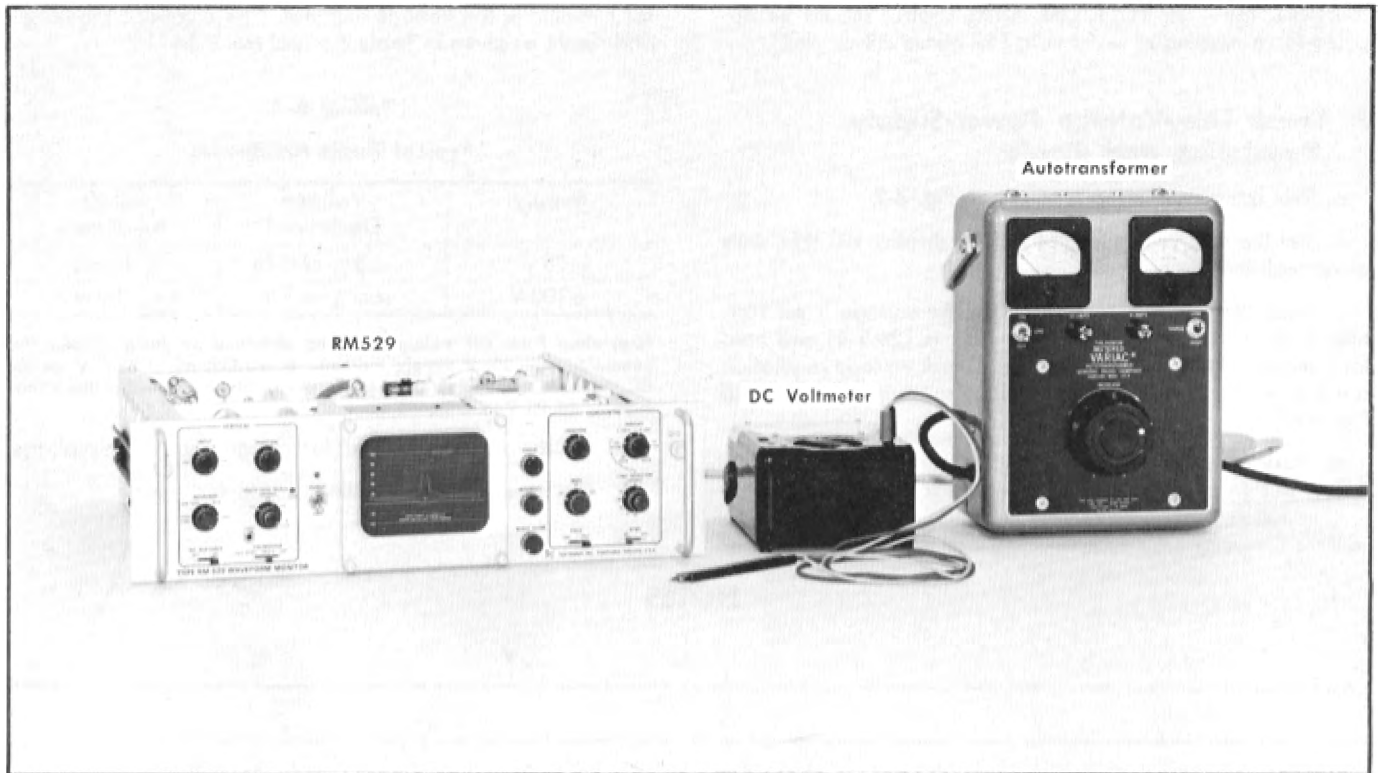

Fig. 6-4. Test equipment required for steps 3 and 4.
- a. Test equipment setup is shown in Fig. 6-4.